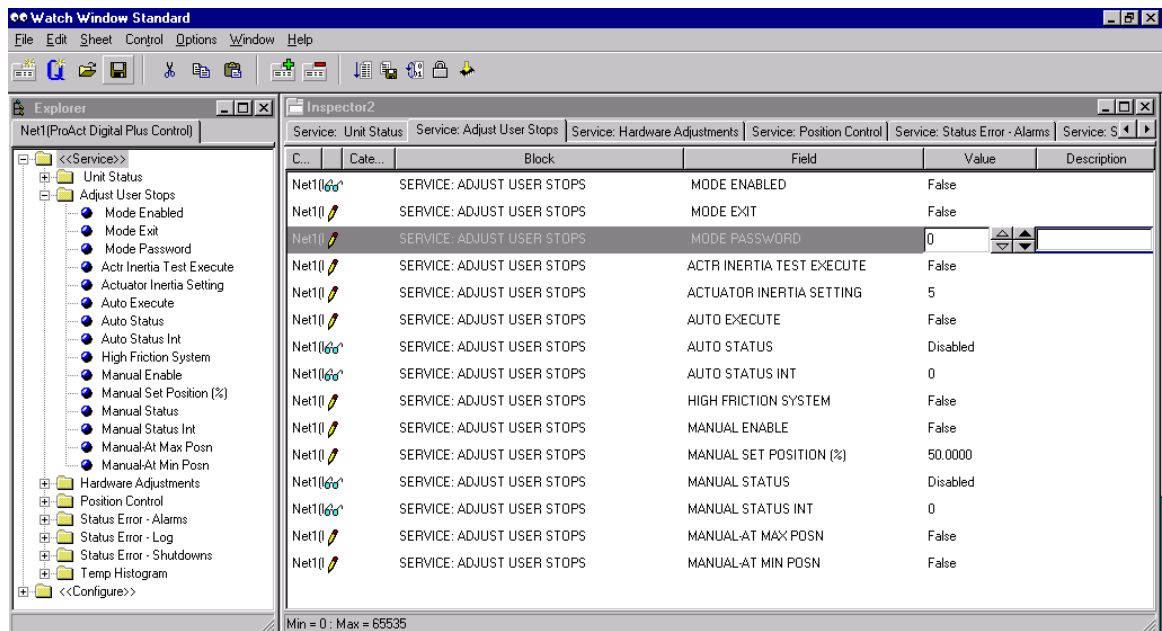
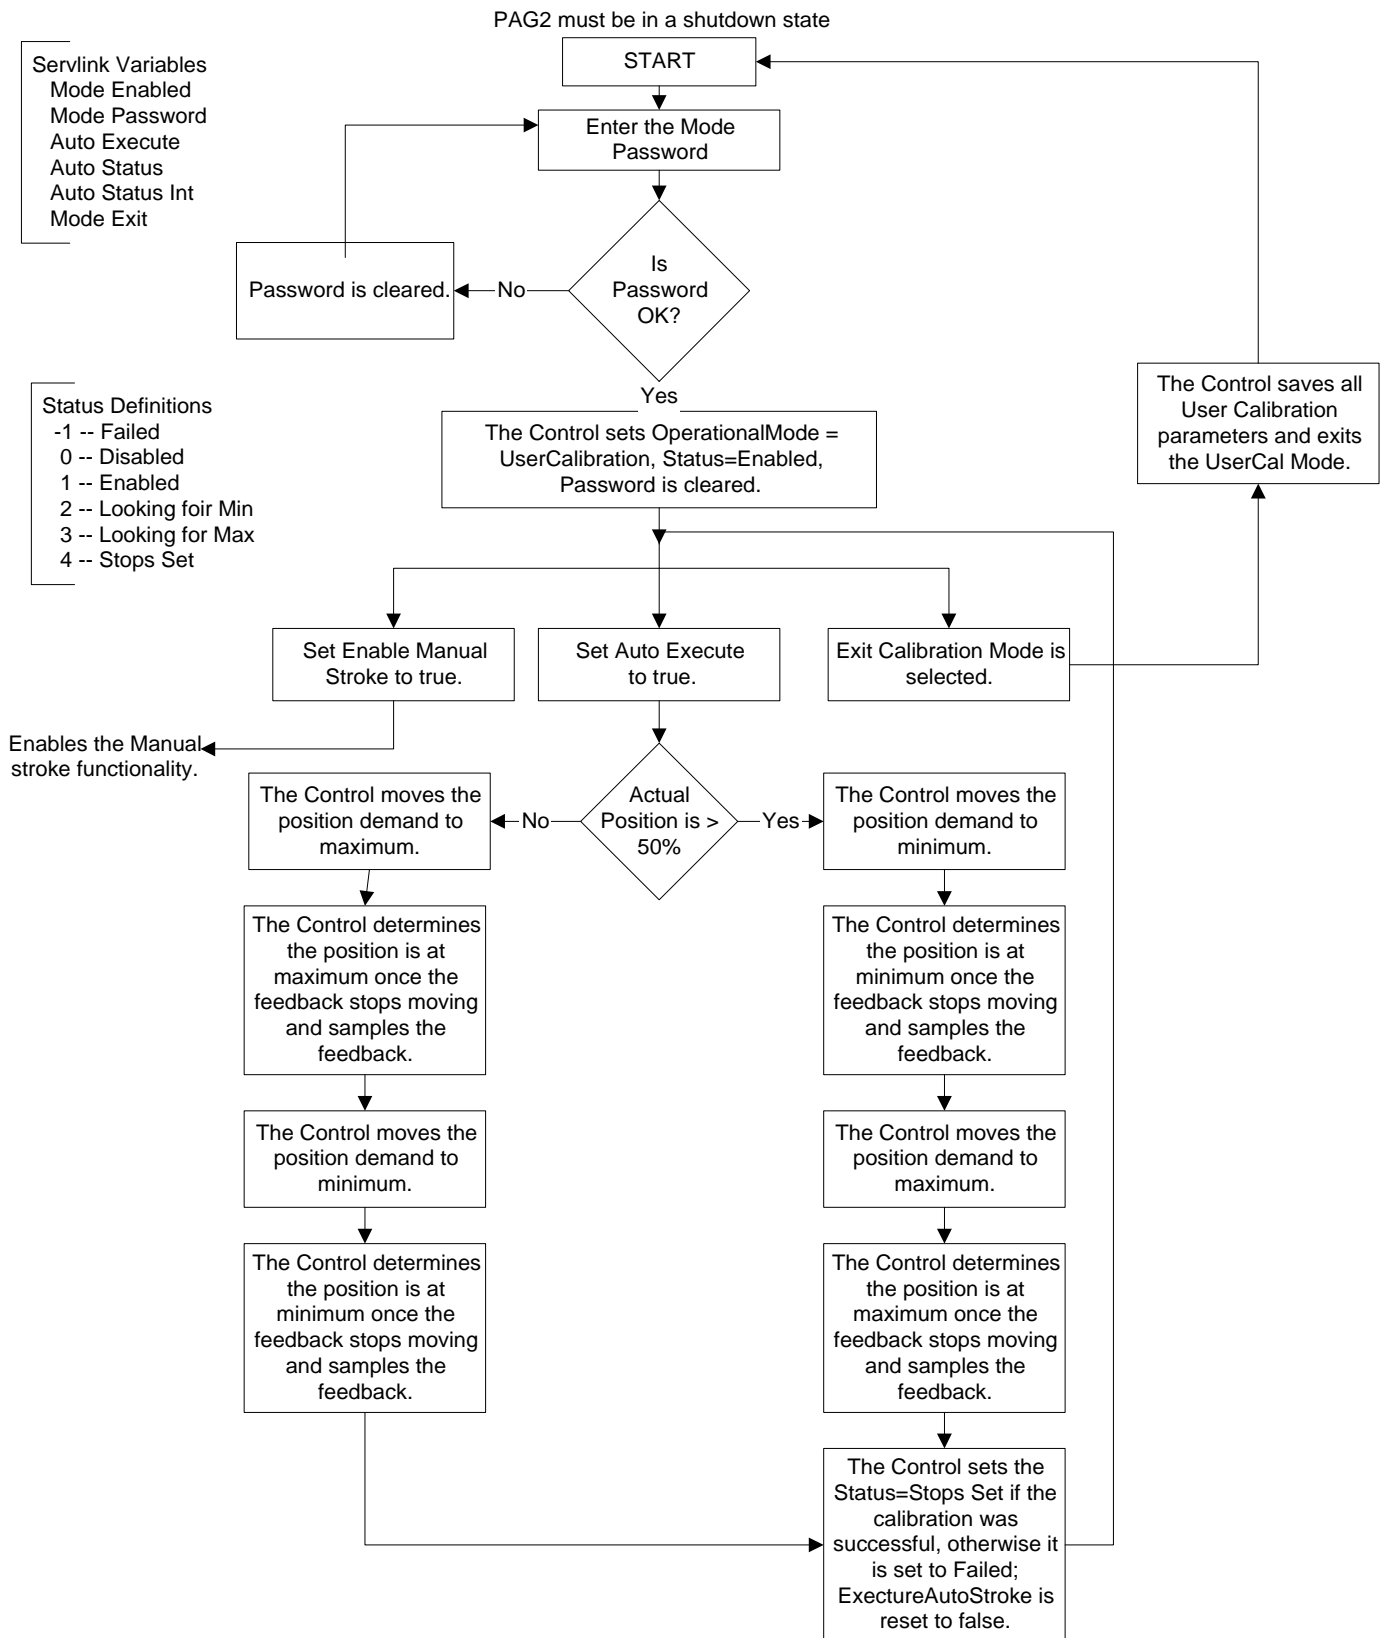

Figure 9-7. Service Mode: Adjust User Stops
Figure 9-8. Auto Stroke Mode Flowchart
To enter the User Calibration mode, the unit must be shut down and a password must be entered. For an overview of the User Calibration, refer to the attached flowcharts (Figures 9-8 and 9-9). Refer to Figure 9-7 for a visual of the parameters available in the Service Tool.
6. Select the desired calibration mode. There are 2 modes, a manual stroking mode and an automatic mode. Refer to Figures 9-8 and 9-9. If the Auto mode is selected, steps 7 through 11 will occur automatically without any user input required. Auto Mode is enabled by setting "Auto Execute" to true.
This category provides the access to change parameters in the Adjust User Stops Mode. Refer to Figure 9-7. It provides both automatic and manual means of setting the stops, inertia setting and testing capability, and exit command, gives mode status, and identifies an errors made in configuration.
Actuator dynamics are set in the Configure Mode, but can also be adjusted in the Adjust User Stop mode. There is only one adjustable dynamics parameter, it is the Actuator Inertia Setting (see Figure 9-7). To change this parameter, the User Stop mode must be enabled.